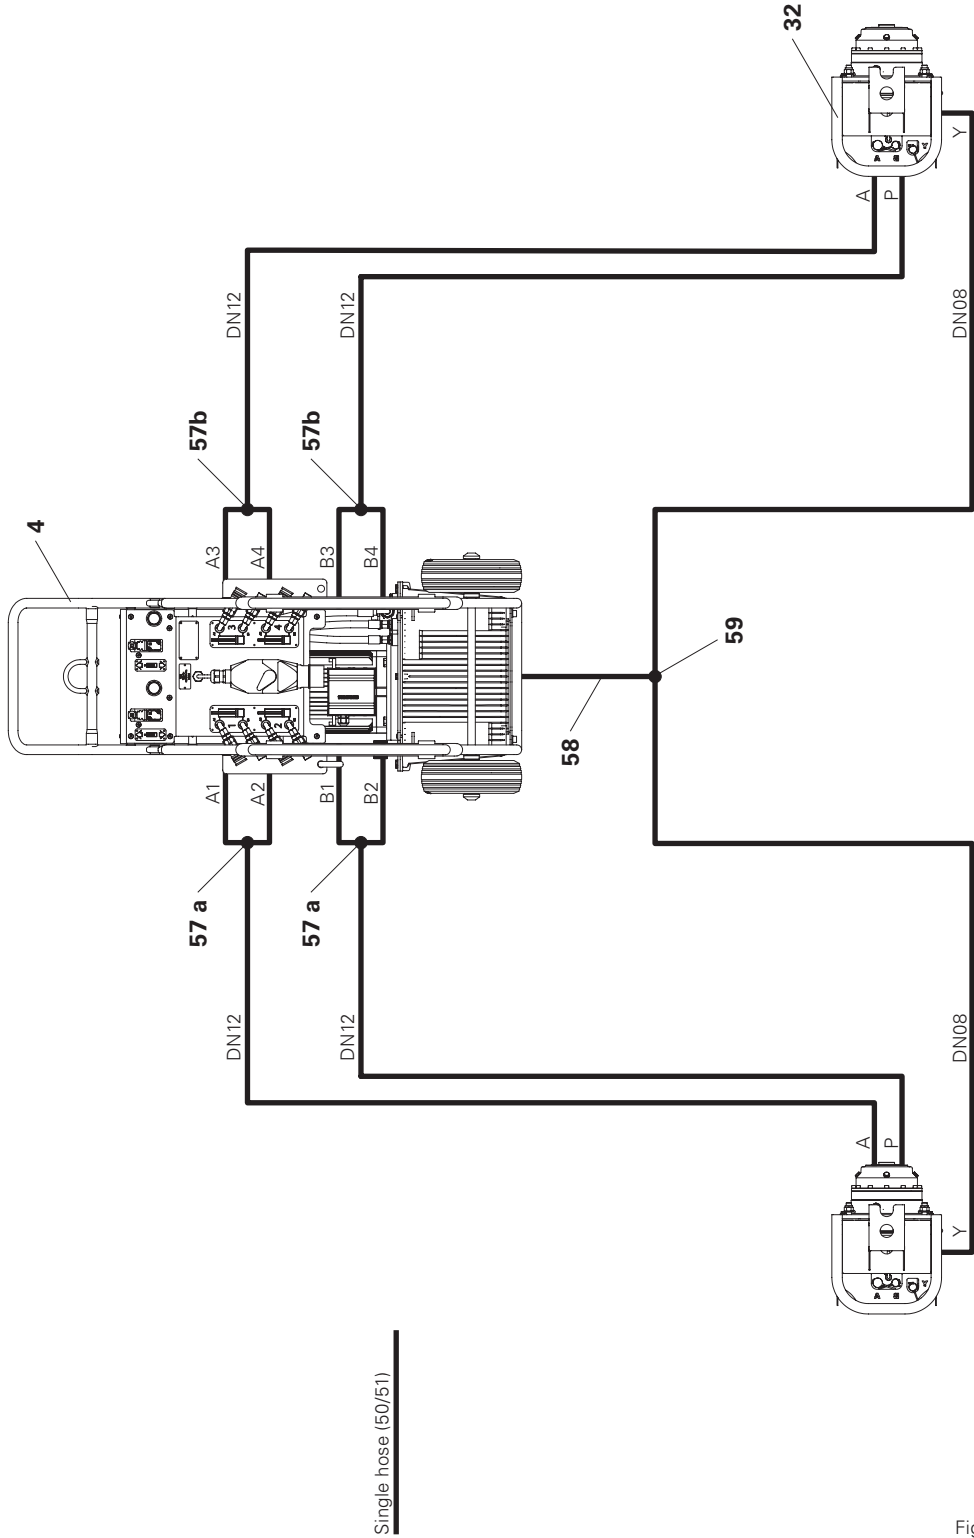

Fig. B6.02
2. Connect the hydraulic traversing drive as shown in Fig. B6.02.